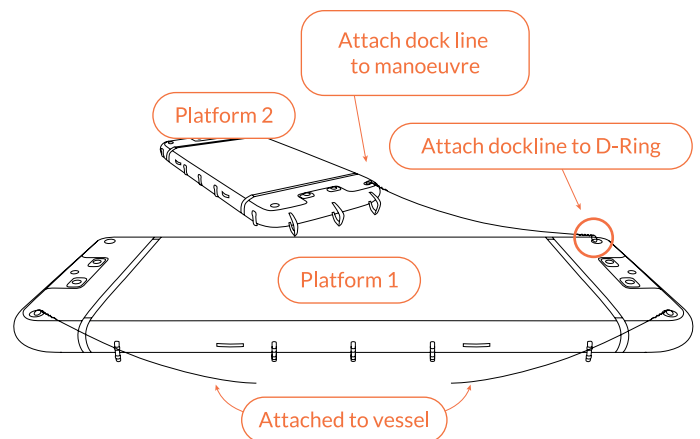

Fig 95 - Platforms secured to each other via a D-rings
2. Manoeuvre Platform 2 to Platform 1 (which is tied to the vessel). Holding on tightly to the dock line that is attached to the D-ring manoeuvre and secure to Platform 1 D-ring using a Bowline. (Fig 95) Allow enough line for the Platform to be connected in a L-Shape.